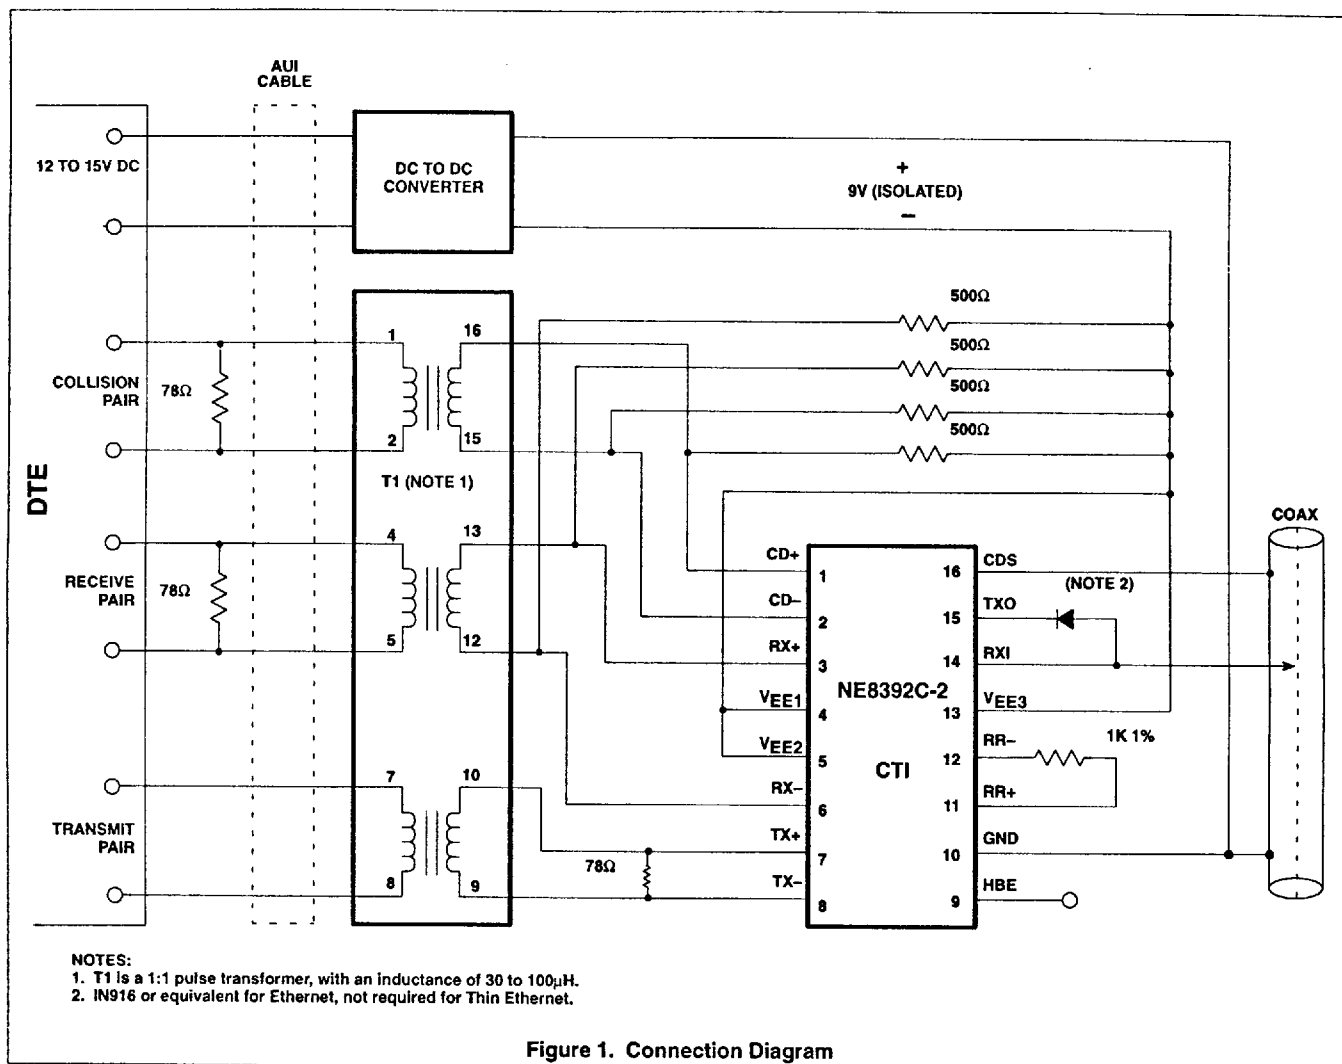

Figure 1. Connection Diagram
6. Measured on secondary side of isolation transformer (see Connection Diagram, Figure 1). The transformer has a 1:1 turns ratio with an inductance between 30 and 100 μH at 5MHz.
- Measured on secondary side of isolation transformer (see Figure 1, Connection Diagram). The transformer has a 1:1 turn ratio with an inductance between 30 and 100 μH at 5MHz.